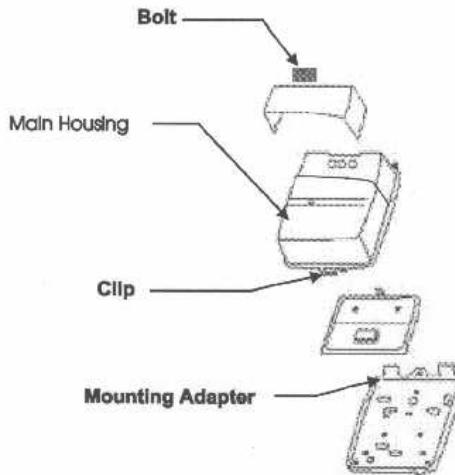

Figure 2-4. Wall MIU Exploded View
- 4 Release the Clip at the bottom of the MIU and separate the Main Housing from the Mounting Adapter (Figure 2-4).